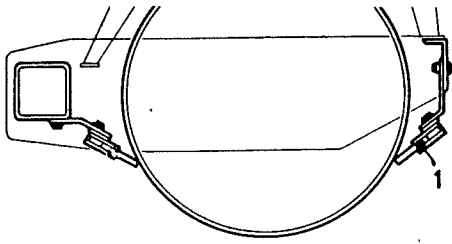

Fig. 13 Scrapers
Each drum has one scraper (1). Two additional scrapers (available as accessories) may be fitted to each drum (in accordance with Fig. 13).